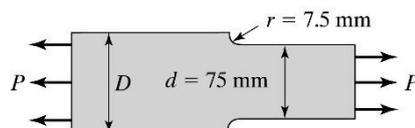

Fig. 3
4. The plate shown in Fig. 3 is 13 mm thick. Load P varies from 90,000 N to 45,000 N. If the material has $\sigma_{yp} = 290$ MPa; $\sigma_e = 165$ MPa, and $q = 0.5$ determine if the part will fail by the Soderberg equation if the factor of safety based on yield point is 2.